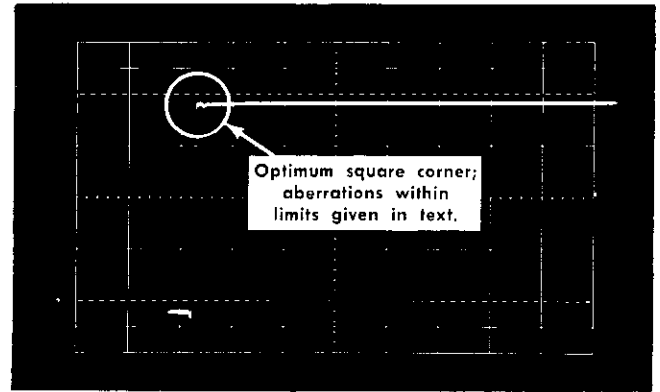

Fig. 5-4. Transient response waveform, step 7. Sweep rate 0.1 μ s/div; deflection factor 20 mV/div.
g. Adjust the Oscilloscope triggering and horizontal position controls to position the display as shown in Fig. 5-4.